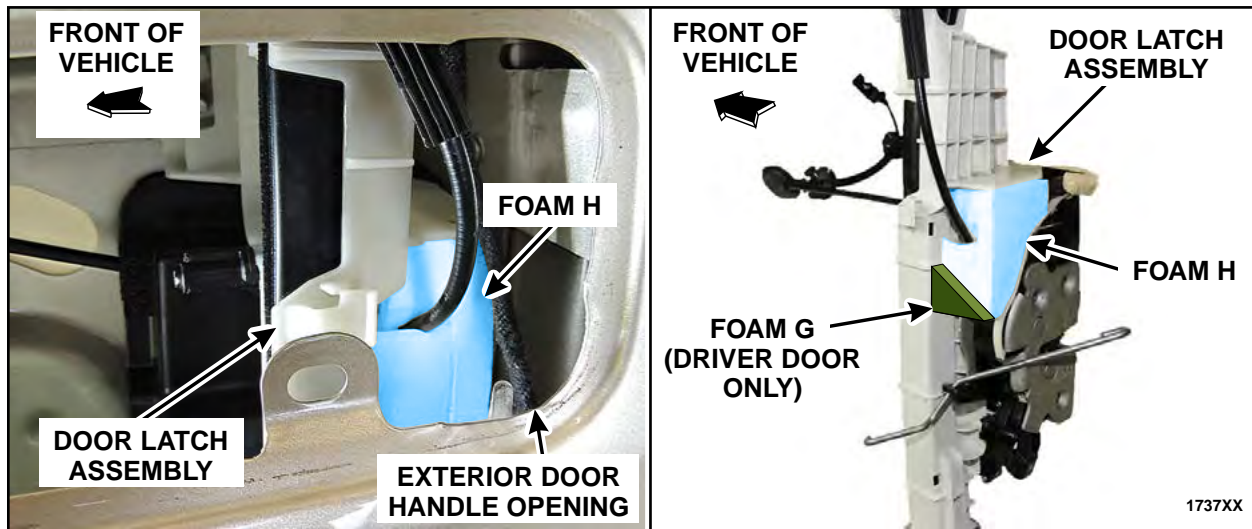

FIGURE 31
2. Install Foam H onto the driver door latch. See Figure 31.